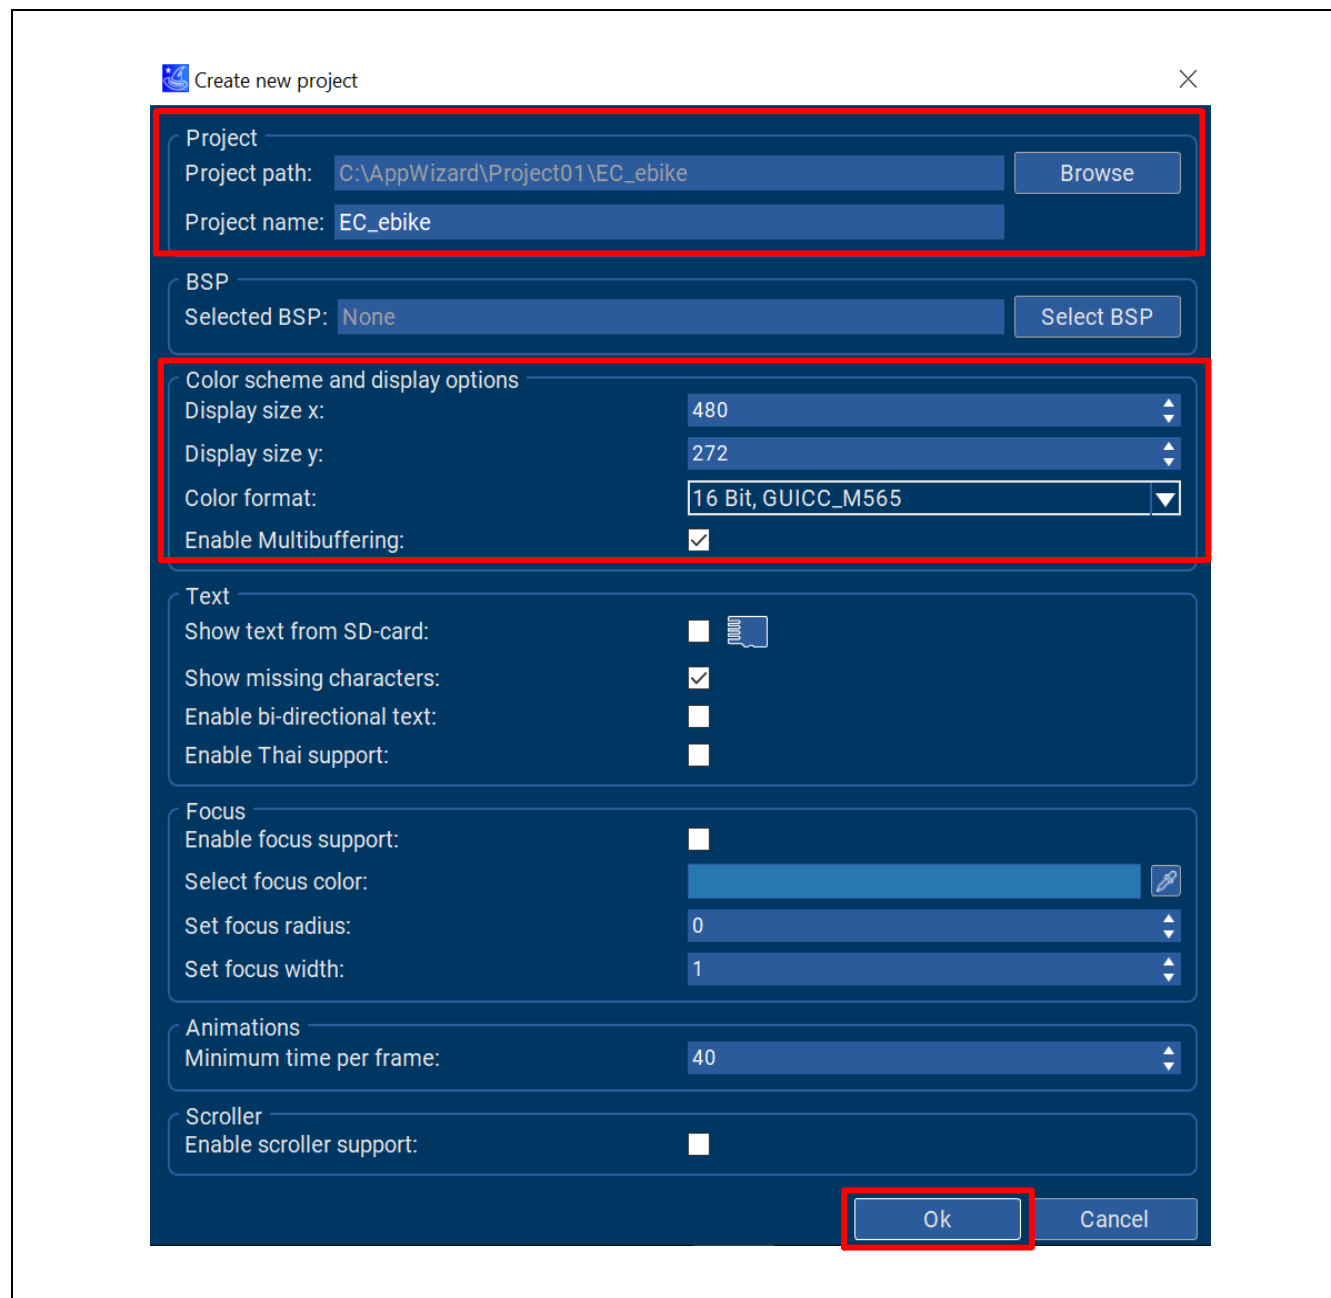

Figure 1-6 New Project Setting
3. Edit the project path and project name. Ensure that the color format should match the screen's specification. According to Figure 1-6, choose "16 Bit, GUICC_M565", and check "Enable Multibuffering".